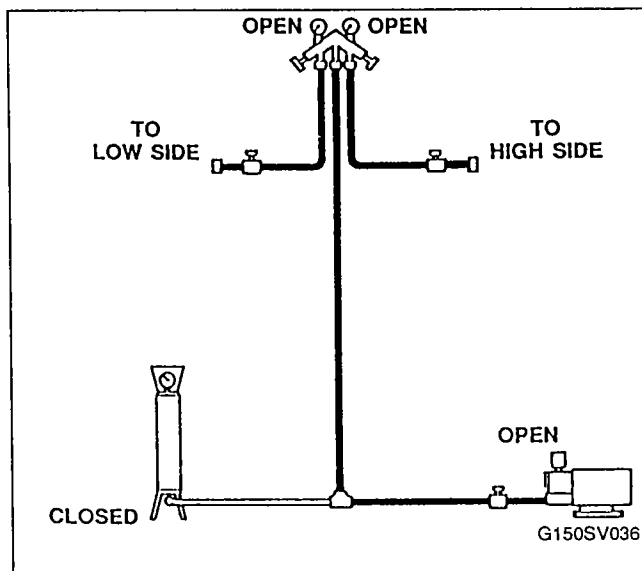

FIGURE 36. EVACUATION OF SELF-CONTAINED SYSTEMS
- b. Discharge side.Connect manifold gauges, dial-a-charge (or weigh-in method), and vacuum pump to ice machine, Figure 36.